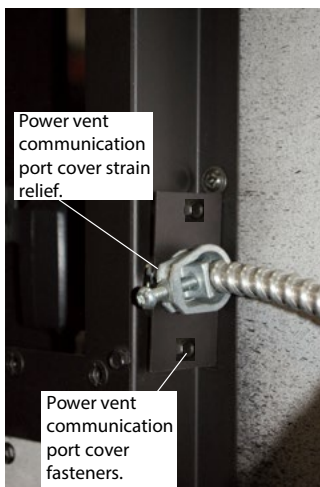

Figure 12e. Installing Conduit Port Cover Plate.
Step 4. Place the cover plate on the Conduit, then tighten the strain relief nut onto the threads protruding through backside of cover plate, **Figure 12e**.
Step 6. Re-Install the communication harness Port cover, **Figure 12e**. (*Philips head screwdriver required*).
Step 7. Tighten Power Vent Strain relief adjustment screw, Figure 12e.